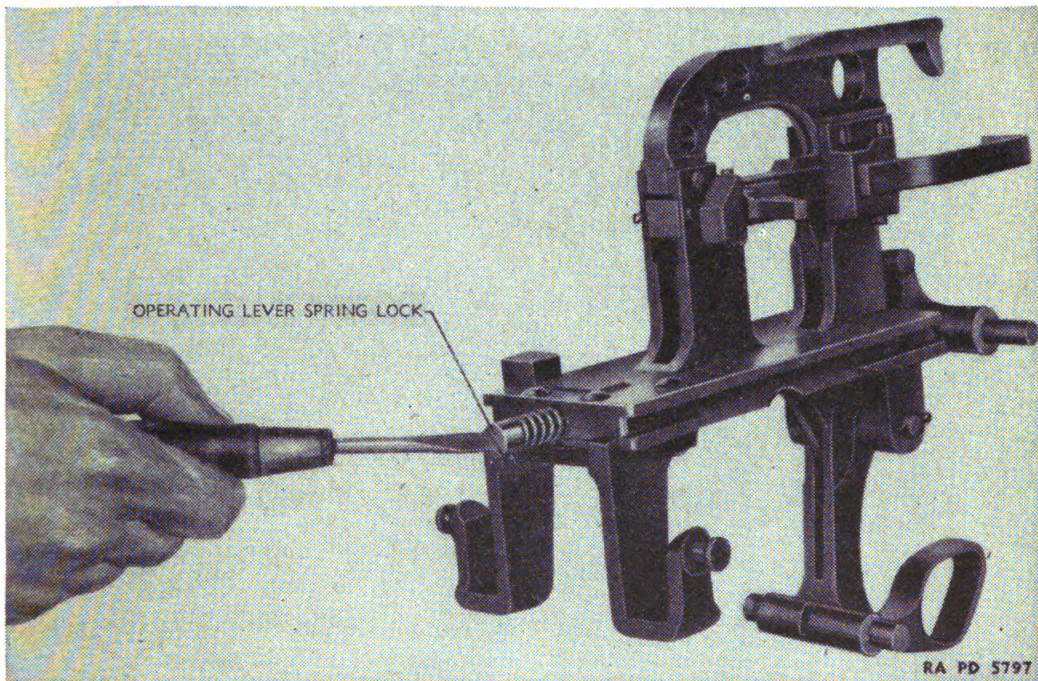

FIGURE 59.—Removal of operating lever spring lock assembly.
*erating lever spring and lock assembly.*—(1) Turn operating lever down.
(2) Depress the operating lever spring lock with a screw driver. Rotate it about one-fourth of a turn counterclockwise and ease out (fig. 59).
(3) Remove the operating lever spring and operating lever spring follower.
*b. Operating lever assembly.*—(1) Remove cotter pin.